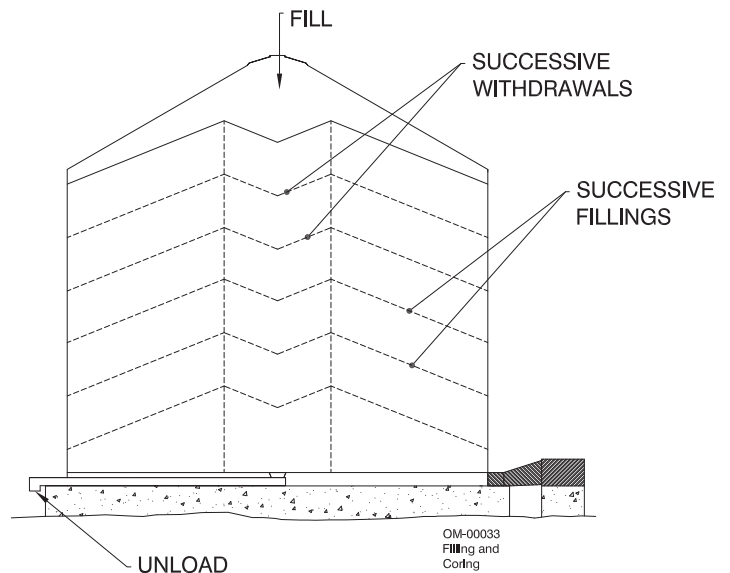

Figure 31. Filling and coring.
5.3.3. Coring the bin is done by unloading grain through the center sump at regular intervals while the bin is being filled. The peak is pulled down after several feet of new grain is added (see Figure 31). Coring during the initial filling will remove a major portion of the fines and foreign material. Another benefit of filling and coring the bin is that it will loosely distribute the grain and thus allow for better aeration. If no inverted cone is created during withdraw, bridging of grain has taken place and a very unsafe condition has been created. No one should enter bin until the situation has been safely corrected.